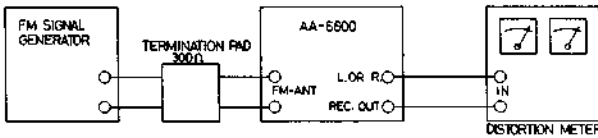

Fig. 5
Use the same instruments as used in item 1-2 (Fig. 5) and connect them in the same way.
- 1) Use the same instruments as used in item 1-2 and connect them in the same way (See Fig. 5). Set the Signal Generator frequency to 98 MHz, and the output to 60 dB (1 mV). Turn the tuning dial to receive this signal and make sure that the tuning indicator deflects more than 5 mm to both sides from beginning to end of signal reception.